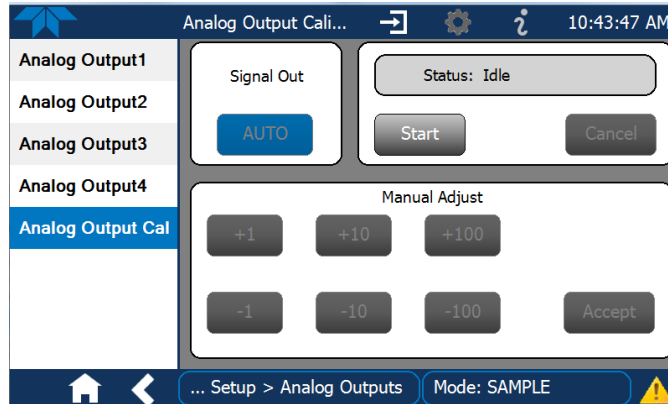

Figure 2-43. Analog Outputs Group Calibration Screen
- AUTO for group calibration (Figure 2-43) of the analog outputs (cannot be selected when Current is selected for the Range)